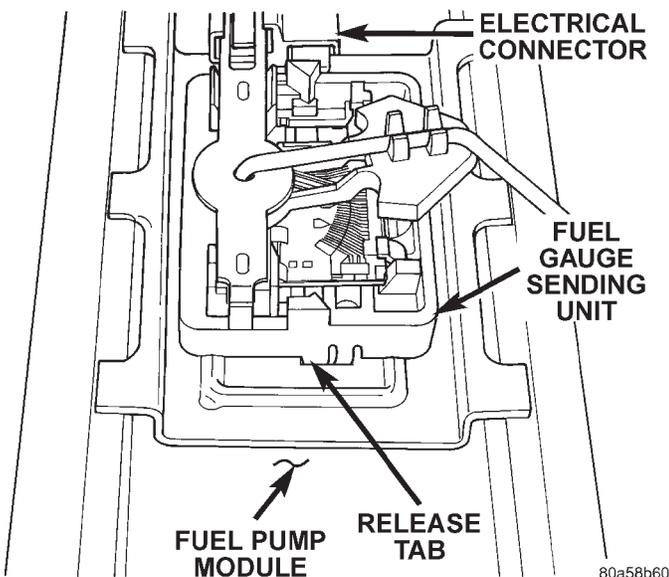

Fig. 29 Fuel Gauge Sending Unit Release Tab
- (1) Remove fuel tank. Refer to Fuel Tank Removal/Installation.
- (2) Remove fuel pump module. Refer to Fuel Pump Module Removal/Installation.
- (3) Remove electrical wire connector at sending unit terminals.
- (4) Press on release tab (Fig. 29) to remove sending unit from pump module.